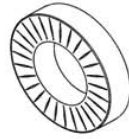
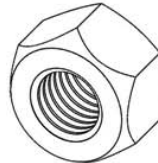

FIG 16
FIG 19
Install bearings to left and right panels as shown using M8 x 25mm Bolt (FIG 20), 8mm Washer (FIG 16), Star Washer, Bearing (FIG 17) and 8mm Nyloc Nut (FIG 19) as per configuration shown in fourteen (14) places.
Install bearings to 8mm holes in all bottom flanges of frame as shown (Diagram 1) using M8 x 25mm Bolts (FIG 20), 8mm Washer (FIG 16), Star Washer, Bearing (FIG 17) and 8mm Nyloc Nut (FIG 19) as per configuration shown below in eight (8) places.
Install bearings to middle panel as shown using M8 x 35mm Bolt (FIG 21), 8mm Washer (FIG 16), Star Washer, Bearing (FIG 17) and 8mm Nyloc Nut (FIG 19) as per configuration shown in seven (7) places.